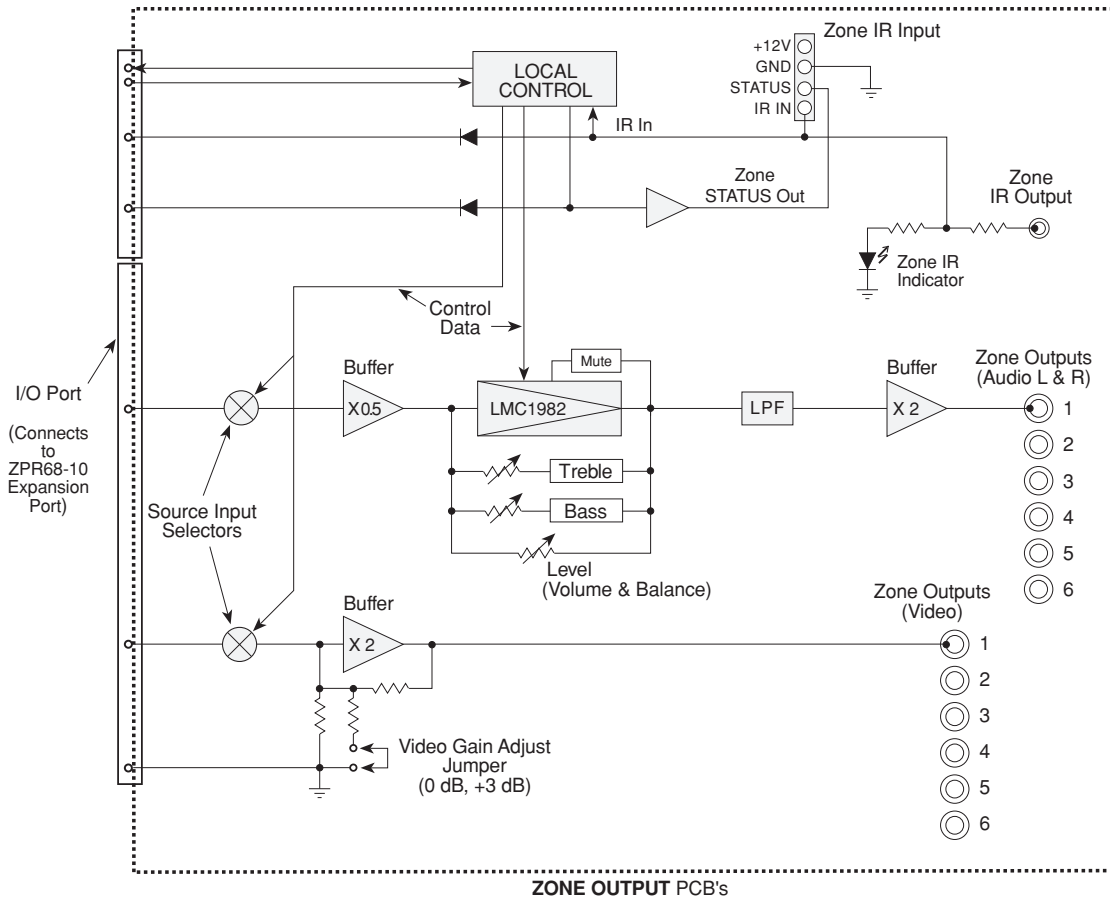

Fig 6.
**Note:** The **STATUS** or Control Inputs of the devices must remain connected to the respective zone **STATUS** terminals on the EXP9, where used. Also, if you exceed **90 mA** on any one of the **STATUS** terminals, use a Xantech **CC12** Remote Relay Module to reduce the current demand. Refer to the CC12 Installation Instructions, Fig. 6, for details.